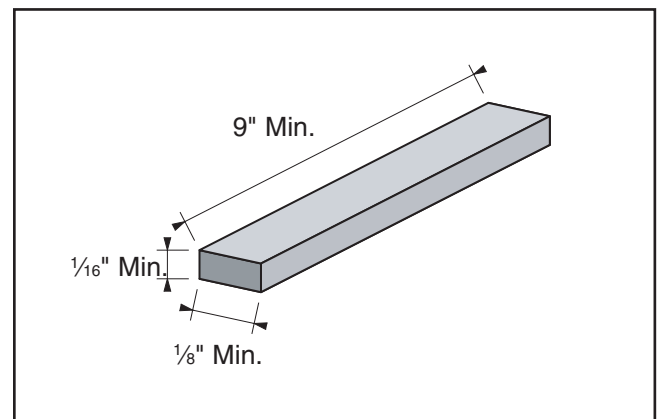

Figure 30. Minimum dimensions for sanding.
- **Workpiece Dimensions:** **DO NOT** sand boards less than 9" long, 1/8" wide and 1/16" thick to prevent damage to the workpiece to reduce the risk of your hands contacting the abrasive belt (see **Figure 30**).